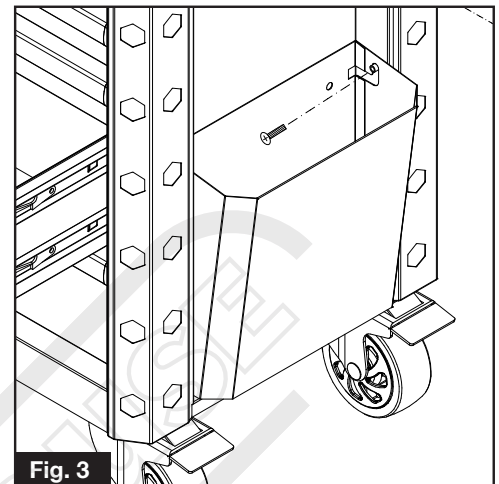

Fig. 3
- Fix the M5x15mm screws with spacers into position using a Philips head screwdriver on both sides. Then slide the large storage holder over the spacers via the slots in the back of storage holder as shown in Fig. 3.